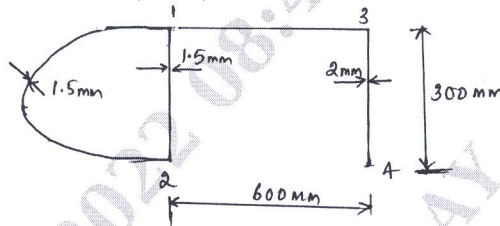

Fig.Q.4(a)
- 4 a. Find the angle of twist per unit length in the using whose cross section is shown in Fig.Q.4(a). When it is subjected to a torque of 10kNm. Find also the maximum shear stress in the section. $G = 25000\text{N/mm}^2$. Wall 12 (outer) = 900mm. Nose cell area = 20000mm^2 .